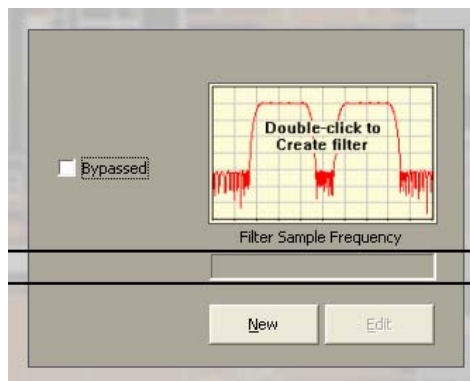

Figure 4
- Click on "New" (Figure 4)
- Double click on the filter thumbnail window (Figure 4)
- Right click anywhere in the filter box and select "new filter" (Figure 4)